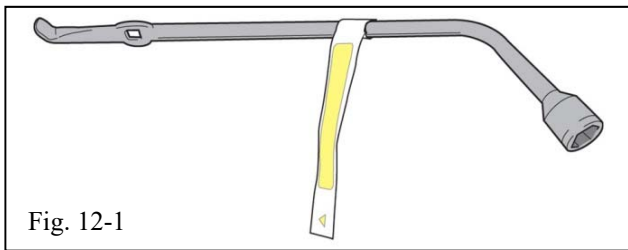

Fig. 12-1
- (b) Attach the spare tire warning label to the vehicle lug wrench as shown (Fig. 12-1). Replace the lug wrench in its storage bag and replace the storage bag in its proper location.